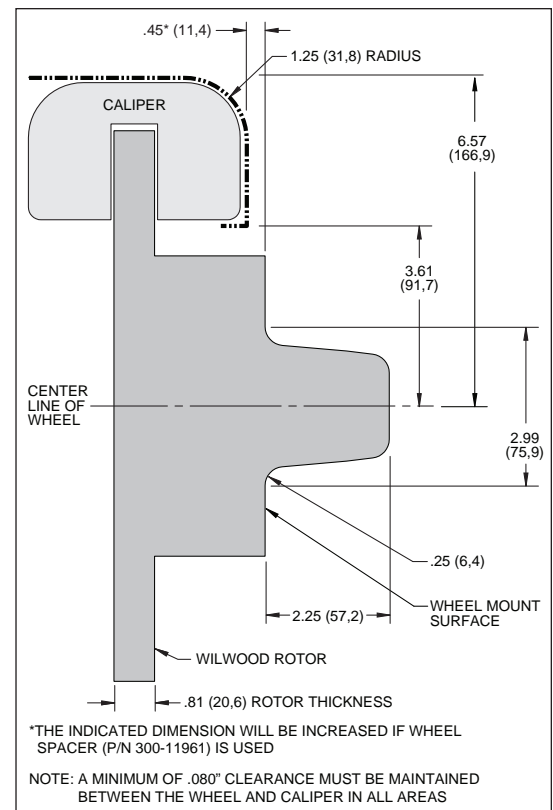

Figure 2. Wheel Clearance Diagram
- Review the Wheel Clearance Diagram (Figure 2, page 3) to verify that there is adequate clearance with the wheels you will be using with the installation.
- Verify wheel clearance utilizing Figure 2.
- WARNING:** The wheel contact surfaces must seat completely on the face of the hub. If any contact surfaces overhang the outside diameter of the hub face, a 6.60" diameter x .20" thick steel spacer (item 25, Wilwood P/N 300-11961) MUST be used between the wheel and the hub.